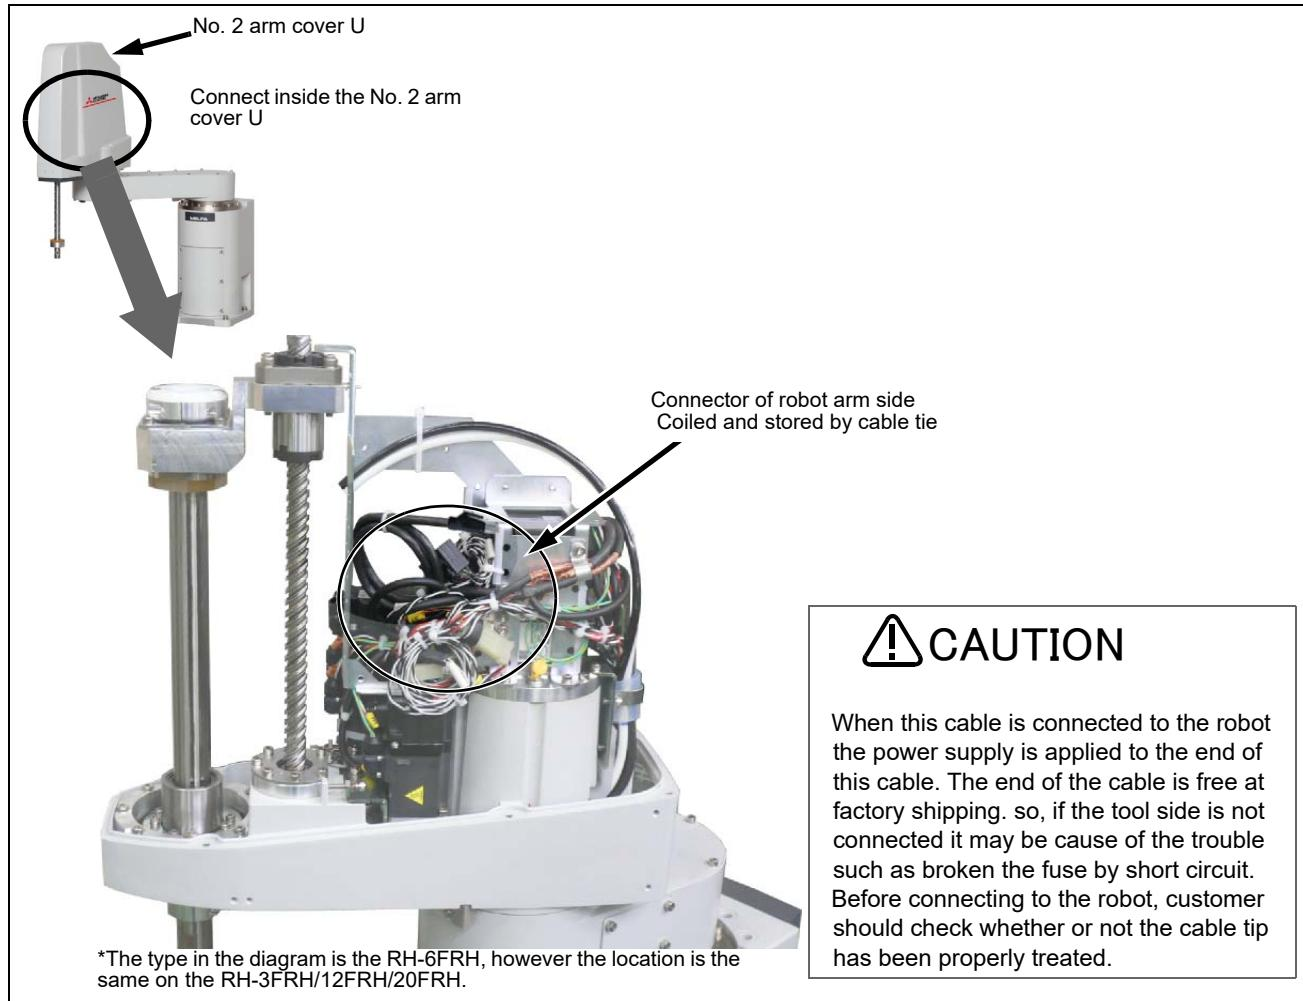

Fig.3-11 : Installing the hand input cable (RH-3FRH/6FRH/12FRH/20FRH series)
Fig. 3-11 shows the hand input cable's storage location on the robot.
- 2) The hand input cable is stored in the location shown in Fig. 3-11. Pull out and check the connectors (HC1, HC2).